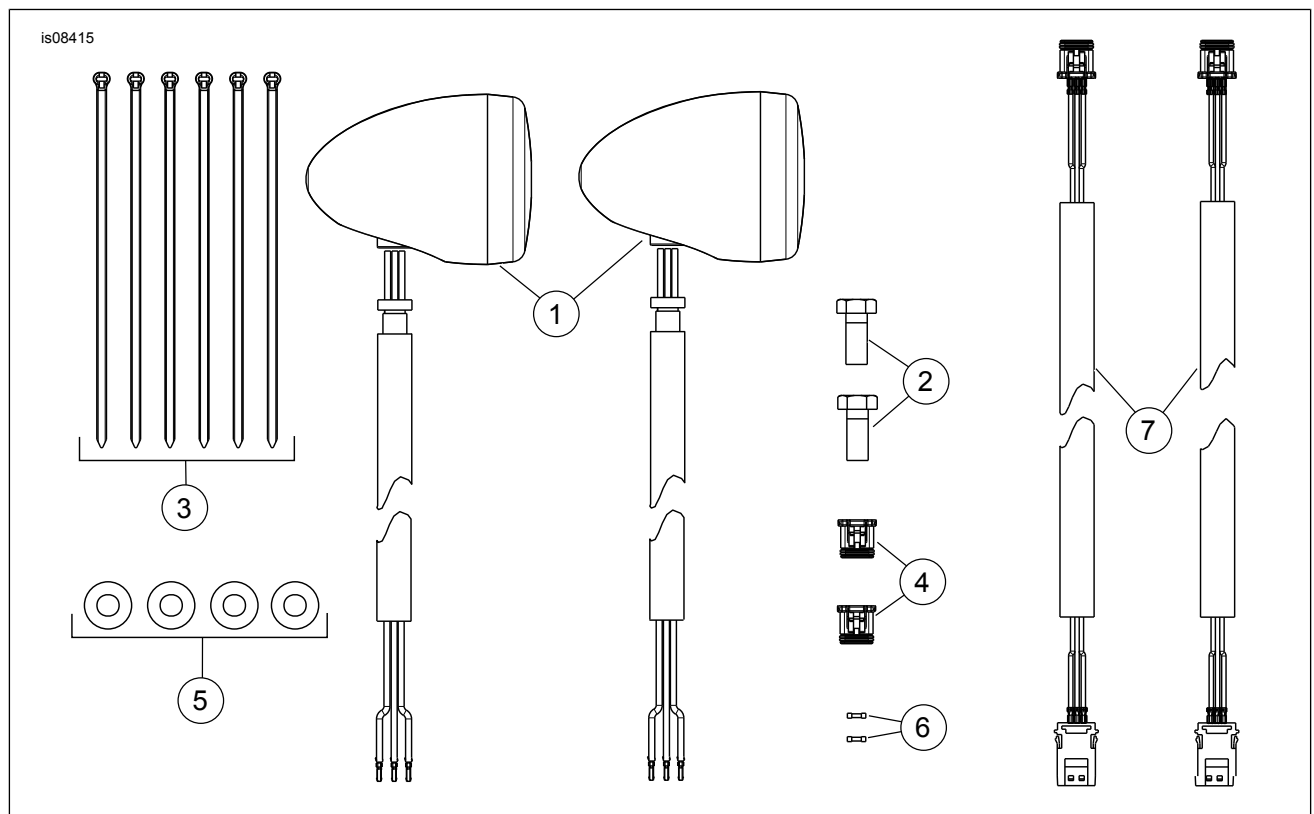

Figure 5. Service Parts, LED, Turn Signal Kit
See Figure 5 and Table 1.
2. See Figure 5. Install connectors (4). See service manual. Before pinning the supplied connectors match it with the existing connectors.
3. Install the wire harness (7).
7. Secure wires as needed with cable straps (3).
4. Apply Loctite 243 (blue) to the screws (2). Install the screws.
2. See Figure 5. Insert the terminals on the ends of the wires into the cavities of a four-way socket housing (4) from the kit:
6. Install the terminals into the connector housings (4). See the service manual.
7. See Figure 5. Install connectors (4). See service manual. Before pinning the supplied connectors match it with the existing connectors.
8. Install the seal plugs (6) in the unused slot of the connector housings. See the service manual.